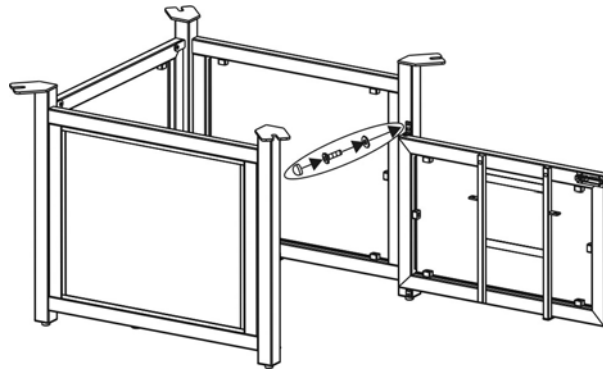

Figure 5
5. Put the door onto the bottom connector by guiding the pin on the connector into the hole under the door. Guide the pin on the top connector into the hole in the top side of the door. Use a 1/4"x15 mm bolt and washer to secure the top connector to the right side panel as shown in Figure 5. **Do not over tighten.**